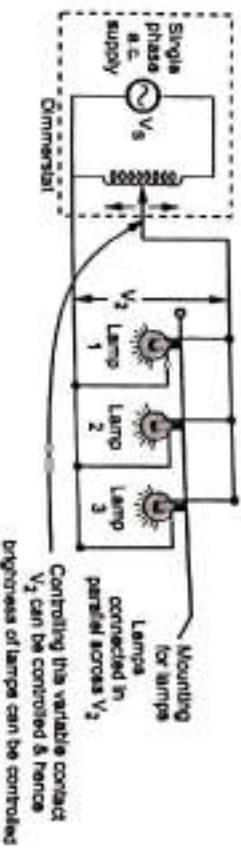

Fig. Q.11.1. Autotransformer as dimmerstat
- 5) As a variac, to vary the voltage to the load, smoothly from zero to the rated value. Such variacs are commonly used for dimming the lights in cinema halls. Hence the variacs are also called dimmersstat. The principle of dimmersstat is shown in the Fig. Q.11.1.